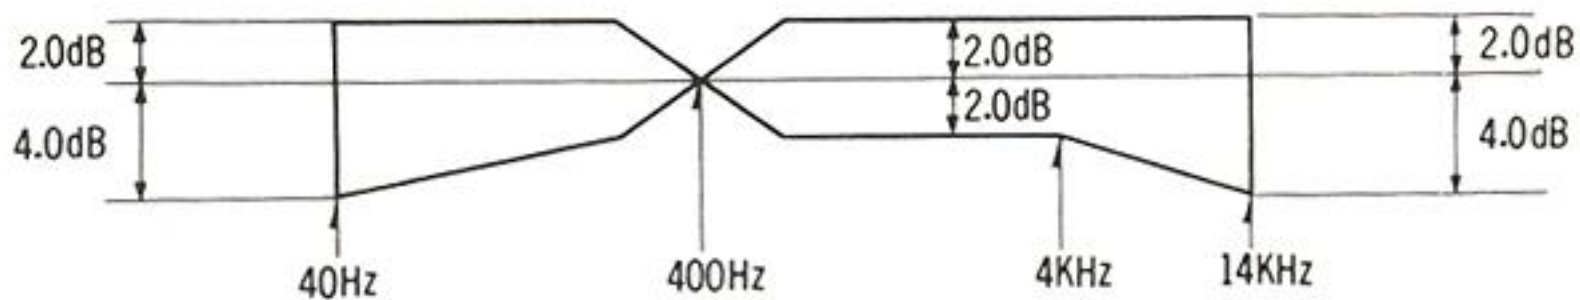

Fig. 46
6. Next vary the input signal frequency between 24 kHz and 5 kHz, and confirm that the frequency response is within the range shown in fig. 46.
After the above measurements and adjustments, measure the overall frequency response at 19cm/s and 38cm/s tape speeds, and confirm that it is within the range shown in fig. 46.
2. If the measured value is not within the range shown in fig. 46, adjust VR506 so that it is within this range.